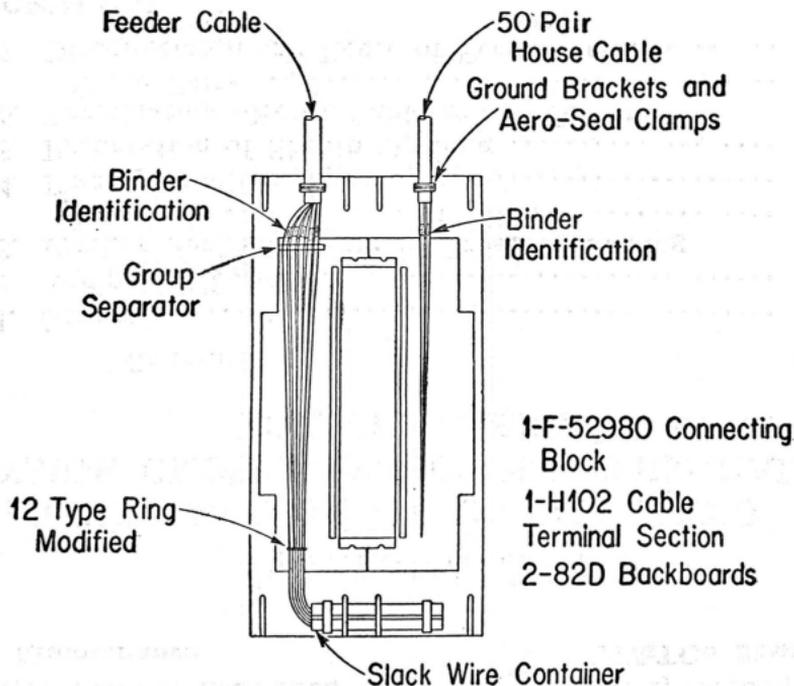
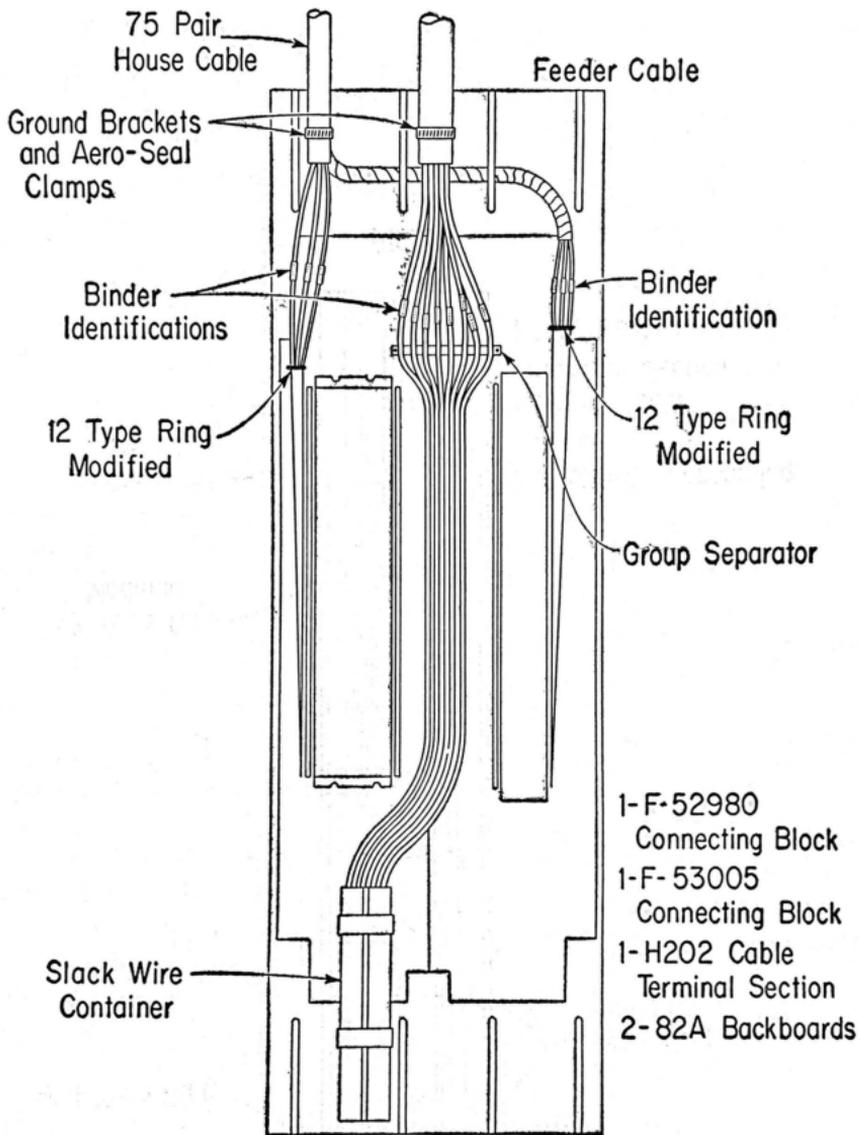

FIG. 1
FIG. 2
2.03 Feeder cable in Figs. 1 and 3 is shown coming from the left and distribution cable from the right. If feeder cable comes from the right, reverse pair terminations so that the distribution cable comes from the left. Do not cross cables.
6.09 Feeder cable pairs are run alongside of the chamber, in Figs. 2, 3, and 4 and cut within $\frac{1}{2}$ inch of the bottom of the housing for clearance purposes. In Fig. 1 they are cut $\frac{1}{2}$ inch from the side of the housing. Insulate the conductor ends with a thorough coating of Permo Seal Spray. Apply two coats at a 15 minute interval. After the second coating has dried, place the excess length of the cable pairs in the slack wire container.